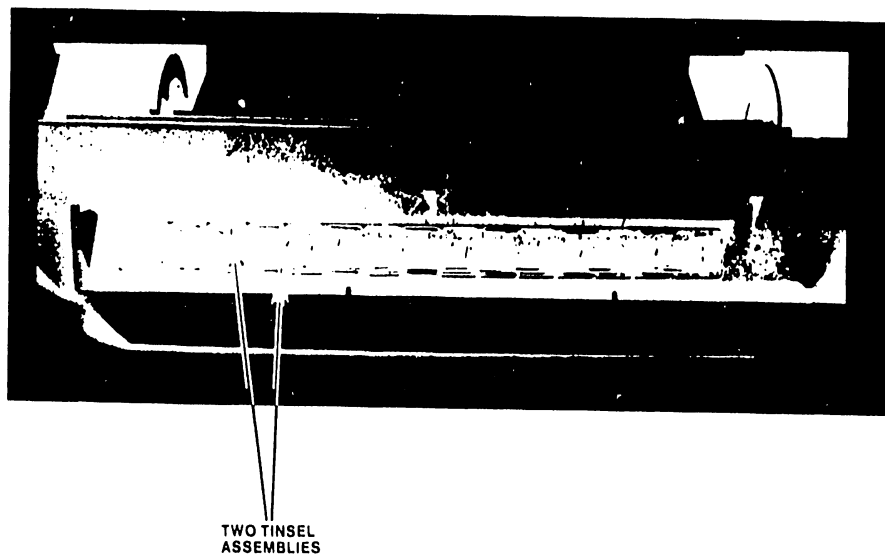

FIGURE 16
- b. Install two tinsel assemblies inside the paper exit chute at the rear of the printer cover. Refer to figure 16.